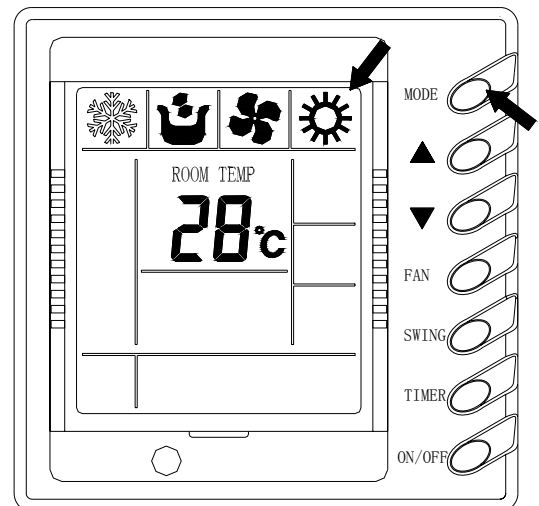

Fig8
7) Set of running mode (Fig.8)